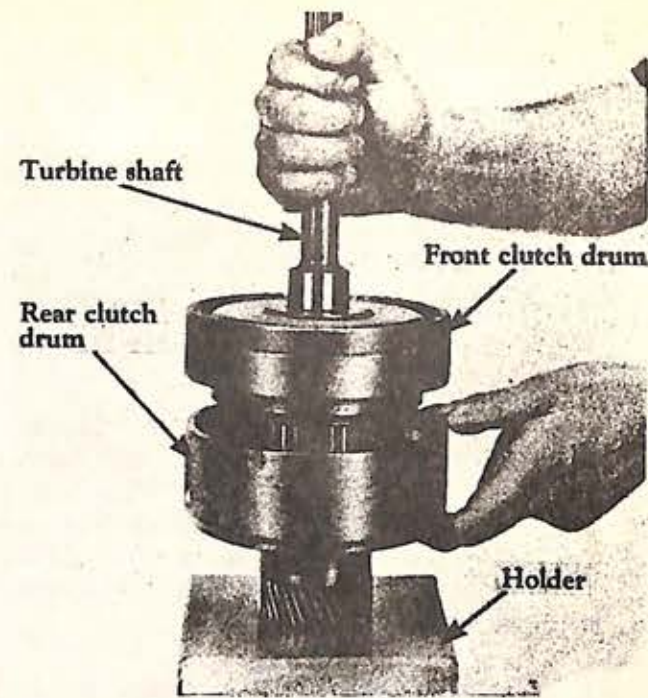

Fig. 58
3. Lift the front clutch assembly from the primary sun gear shaft (Fig. 58).